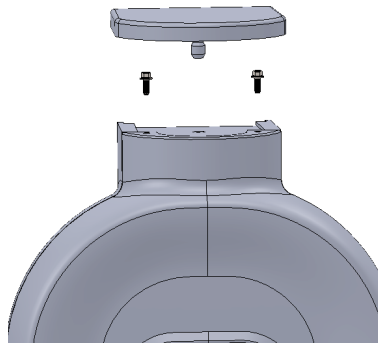

Figure 27
- Lift the rubber cap on the top and remove the 2 M3X6 Hex. socket Head cap screws with M3 plain washers on top using 2.5 MM allen key as shown in the Figure 27.